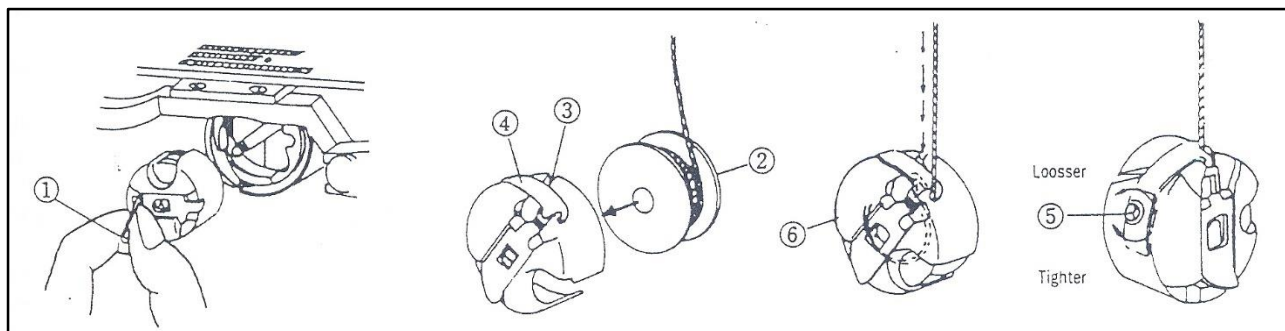

Figure 7.5
Refer to Fig 7.5. Fit the spool (2) into the spool case (6) Insert the thread spool in the groove (3) Then hook the thread under the thread tension adjusting spring (4) Rotating the tension adjusting screw (5) clockwise increases the thread tension, rotating the tension adjusting screw (5) anti-clockwise decreases the thread tension. Adjust the thread tension so that the spool case will gradually drop under its own weight.
Refer to Fig 7.5. Hold the spool case lever (1) and push the case into the hook. When removing, hold the spool case lever and pull it out of the hook.